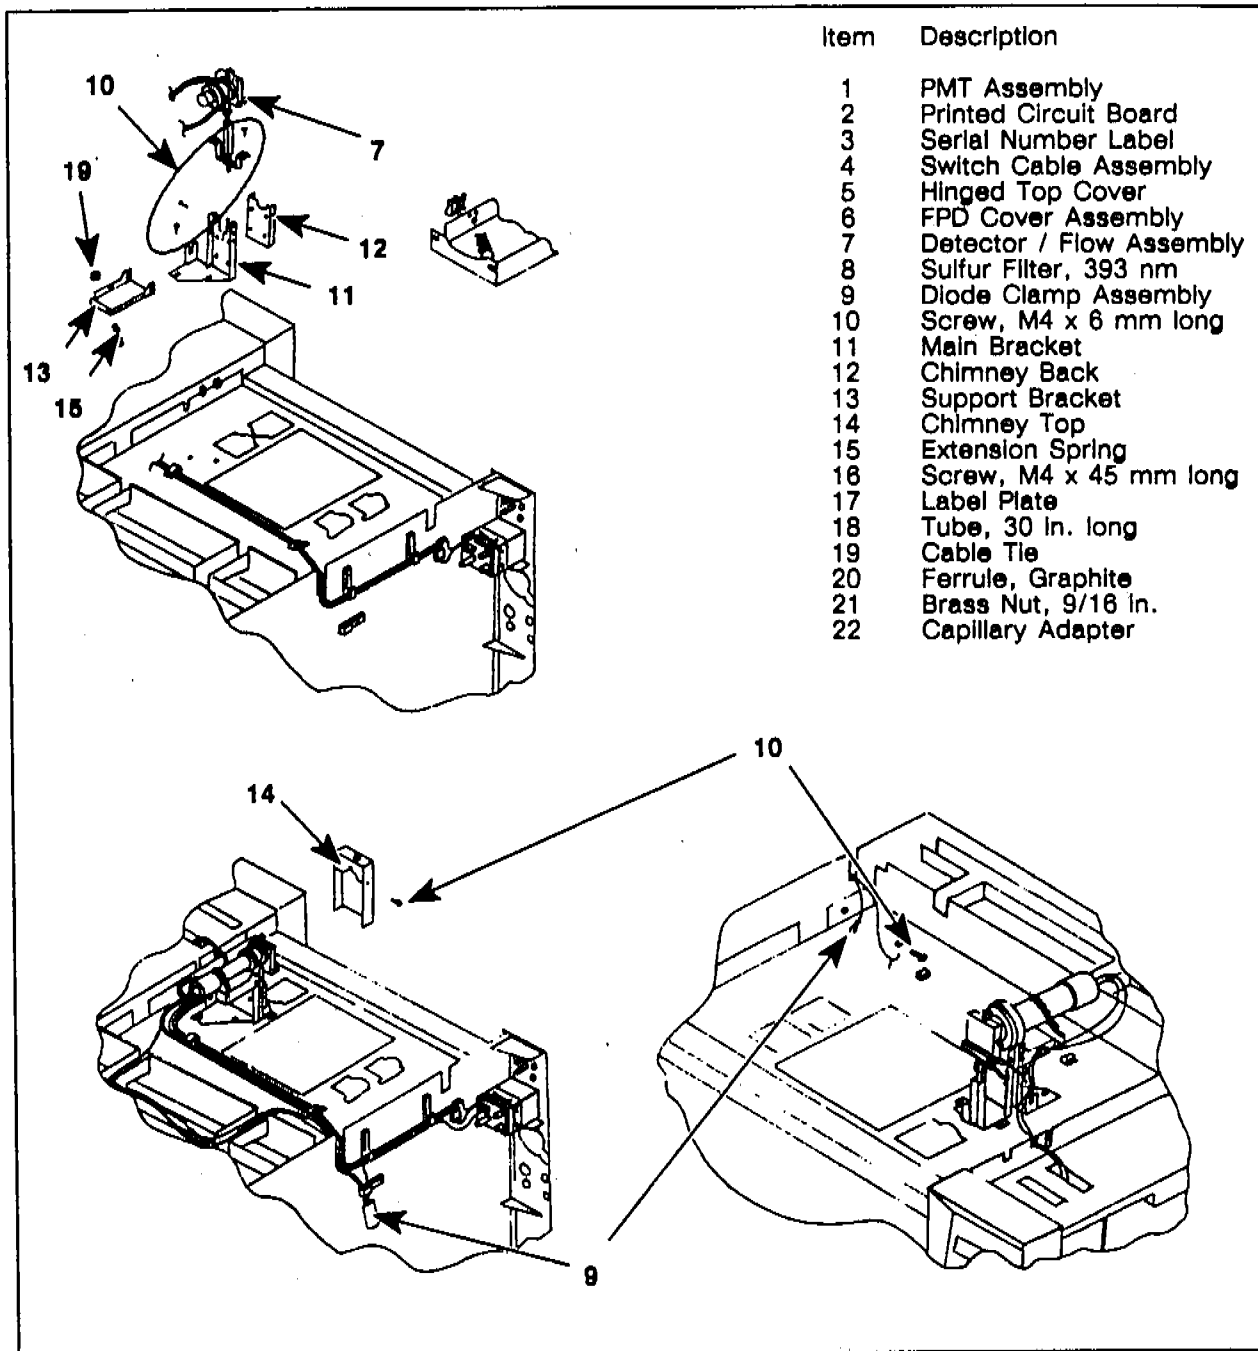

Figure 4
2. Loosely install the main bracket (11, figure 4) with two M4 X 6 mm screws (10) in the detector "B" location. Attach the PMT support bracket (13) to it with four M4 X 6 mm screws (10), press the metal cable tie (19) into its mounting hole and attach the extension spring (15).
3. Assemble the chimney back (12) to the main bracket (11) with four M4 X 6 mm screws (10). See Figure 4.